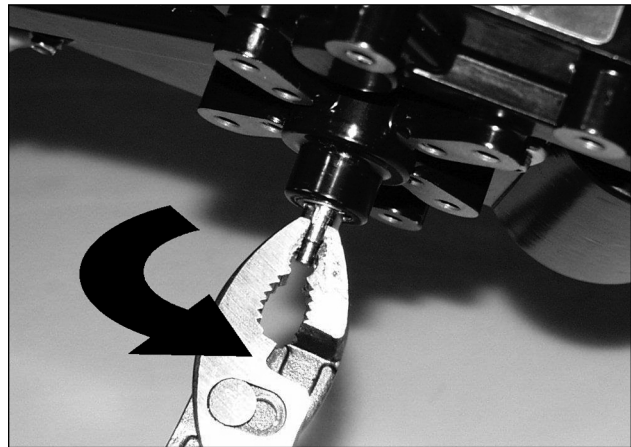

Figure 4: Turn Positioner Shaft
4. Carefully grasp positioner shaft with pliers as shown in Figure 4. Turn shaft to determine direction of rotation.